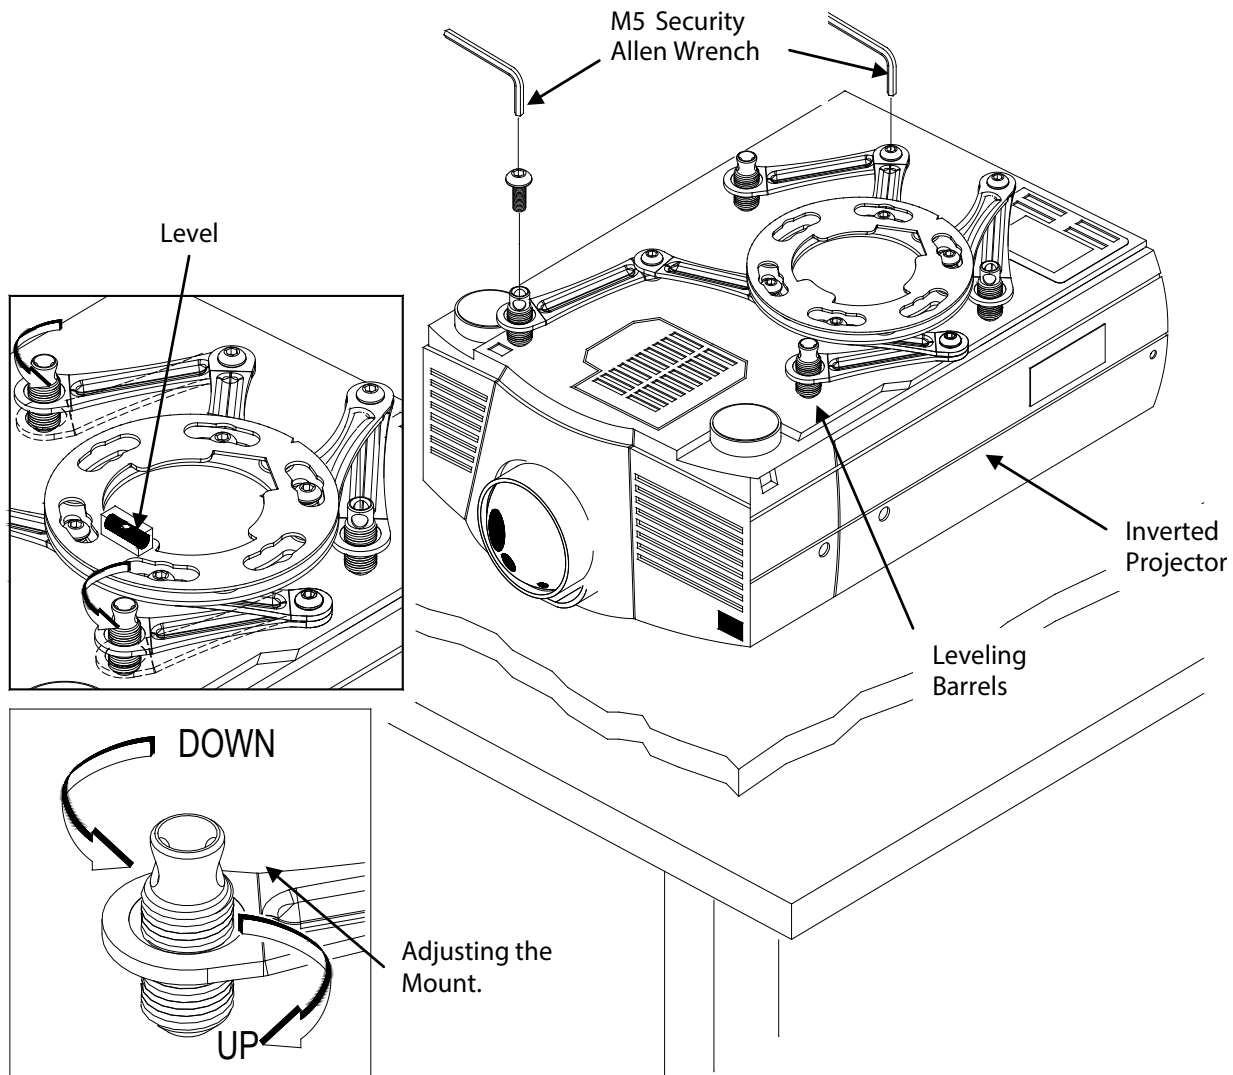

Figure 4. Leveling the Mounting Bracket
Step 3. When the desired position is achieved, tighten the mounting screws to the projector and then tighten the security hex head leg screw with the M5 Security Allen Wrench (Figure 4).